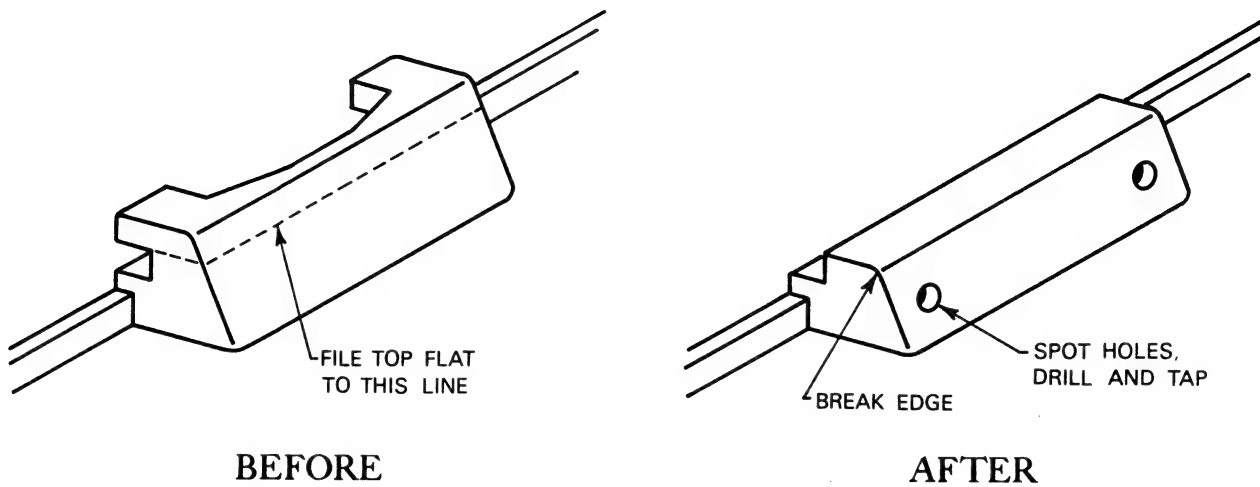

Figure II-3. LATCH REPAIR - ROLL HOLDER FRAME
1. File top of latch flat as in figure II-3 above.